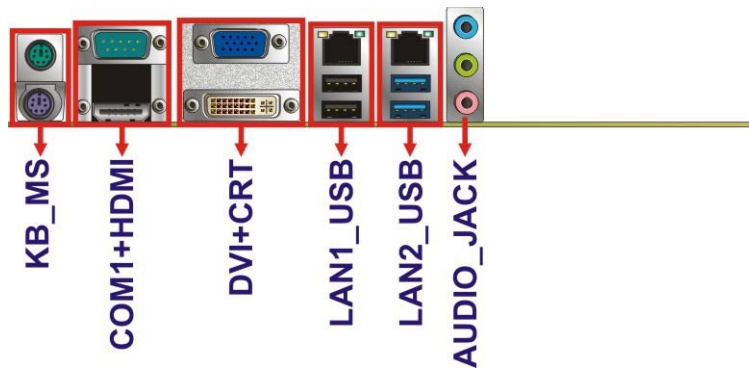

Figure 3-24: External Peripheral Interface Connector
CN Location:	See Figure 3-24
- CN Location:** See **Figure 3-24**